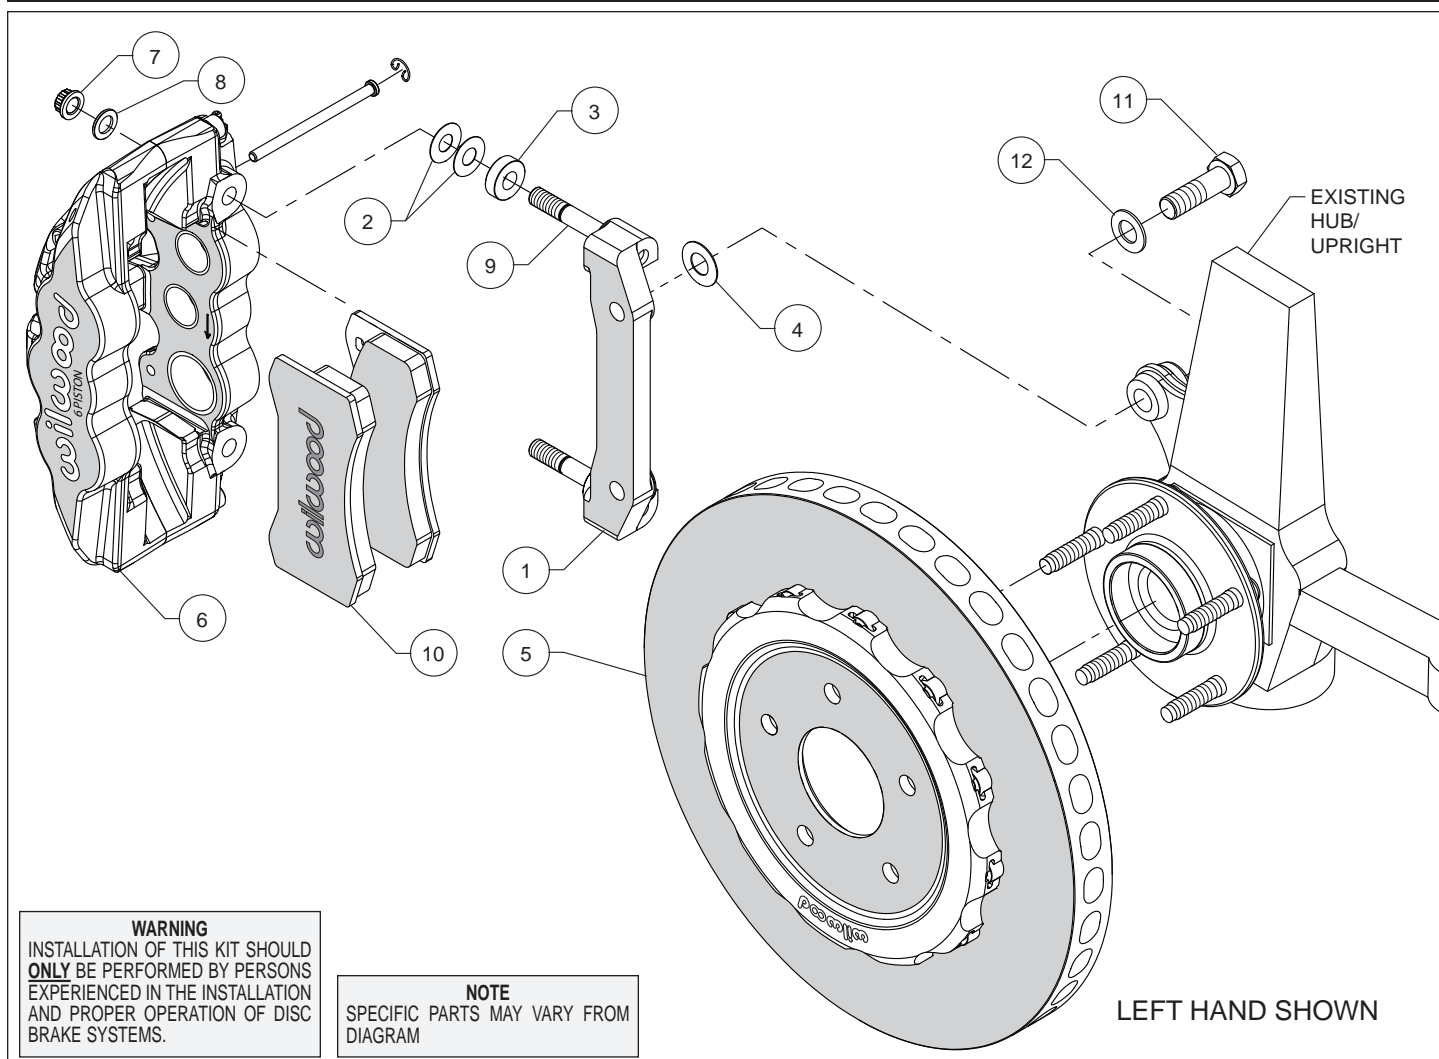

Figure 1. Typical Installation Configuration
- The caliper mount bracket (1) should initially be installed with clean, dry threads on the mounting bolts. Orient the bracket as shown in Figure 1 and Photo 1, and install bolts (11) and washers (12). Initially place one .029 thick shim (4) on each bolt between the bracket and upright, Figure 1. Temporarily tighten the mounting bolts. **NOTE:** *The bracket must fit squarely against the mount bosses on the upright.* Inspect for interference from casting irregularities, machining ridges, burrs, etc. Later, after the caliper alignment has been checked, the mount bolts will be secured using red *Loctite*® 271.
- Slide the hat/rotor assembly (5) onto the axle hub. **NOTE:** *The hat must fit flush against the axle hub flange or excessive rotor run out may result.* Install three lug nuts (finger tight) to keep the hat/rotor assembly in place while continuing with the installation.
- NOTE:** *This kit contains distinct right and left hand calipers that must be mounted in a specific direction, as described below.* Lubricate the caliper mounting studs (9) with lightweight oil. Initially place two .016" thick shims (2) and spacer (3) on each stud as shown in Figure 1 and Photo 2. Mount the caliper (6) onto the bracket (1) using lock nuts (7) and washers (8), Figure 1. Ensure that the caliper is mounted so that the largest pistons are at the rotor exit end of the caliper, in relation to the direction of rotor rotation. Temporarily tighten the lock nuts and view the rotor through the top opening of the caliper. The rotor should be centered in the caliper, Photo 3. If not, adjust by adding or subtracting shims (4) between the bracket and the upright. Always use the same amount of shims on each of the two mounting bolts. Once the caliper alignment is correct, remove the bracket mounting bolts (2) one at a time, apply red *Loctite*® 271 to the threads, and torque to 77 ft-lb.
- Remove the two pad retaining pins from the caliper by carefully popping out the pin retaining clips and sliding out the pins. Insert the brake pads (10) into the caliper from the bottom, Figure 1 and Photo 4, with the friction material facing the rotor and secure the brake pads in place with the pad retaining pins and clips, Photo 5. Reinstall the caliper onto the caliper mounting bracket and temporarily tighten the lock nuts. Check that the top of the brake pad is flush with the outside diameter of the rotor, Photo 6. If not, adjust by adding or subtracting shims (2) between the caliper and the bracket. After the caliper pad height is set, torque the caliper lock nuts (7) to 47 ft-lb.